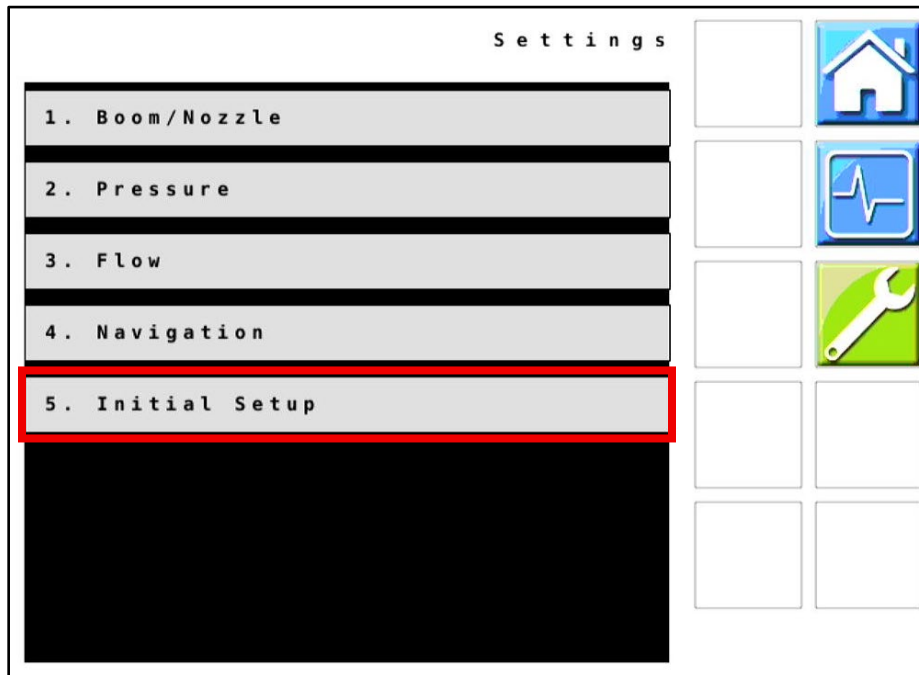

Figure 2 — Settings Menu
3. **Figure 2:** To begin setup, Tap the  button > **Initial Setup** > and **Configuration** on the following page.